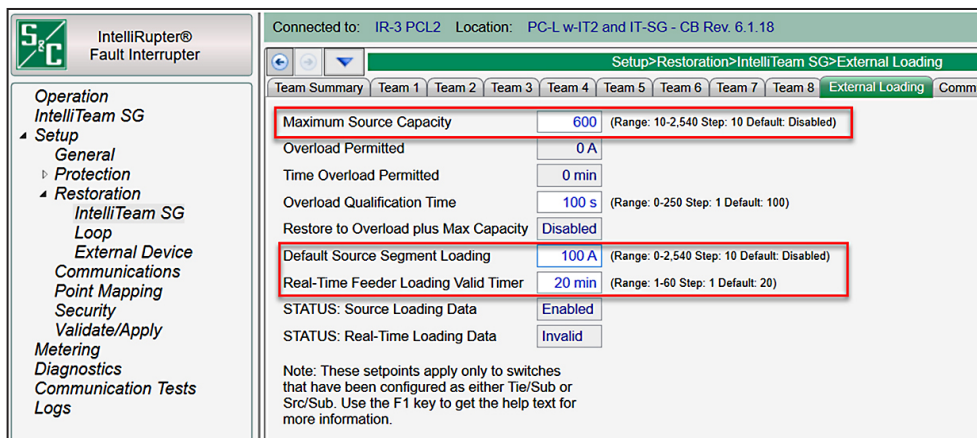

Figure 9. The Setup>Restoration>IntelliTeam SG>External Loading screen.
**Note:** This setting must be used with the **Default Source Segment Loading** setting on the *Setup>Restoration>IntelliTeam SG>External Loading* screen in the IntelliLink software for the **Real-time Feeder Loading** feature to be available. See Figure 9 on page 15.